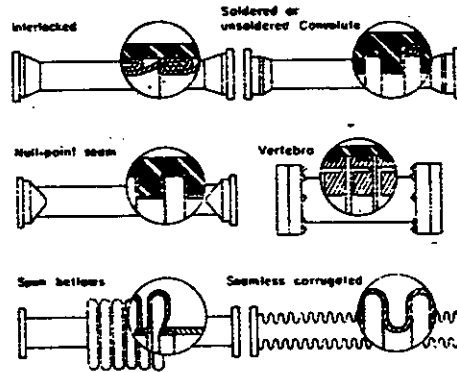

FIGURE 6.16. Flexible waveguide constructions.
6.4.2 Flexible waveguide types. Flexible waveguides may be classed as either resonant or nonresonant types. The nonresonant types are fabricated from spiral wraps (interlocked, soldered convolute, unsoldered convolute) or from thinwall tubing (seamless corrugated or nullpoint seam). The resonant types consist of the bellows or vertebra construction. The significant features of each of these constructions are indicated below and shown in the cutaway sections of figure 6.16 and in table 6.XXIII.